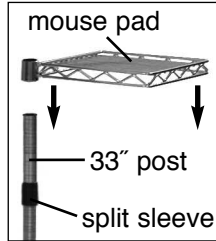

Figure 3
- Assemble split sleeve onto 29" mark on either left or right 33" post (see Figure 3), depending on preference.